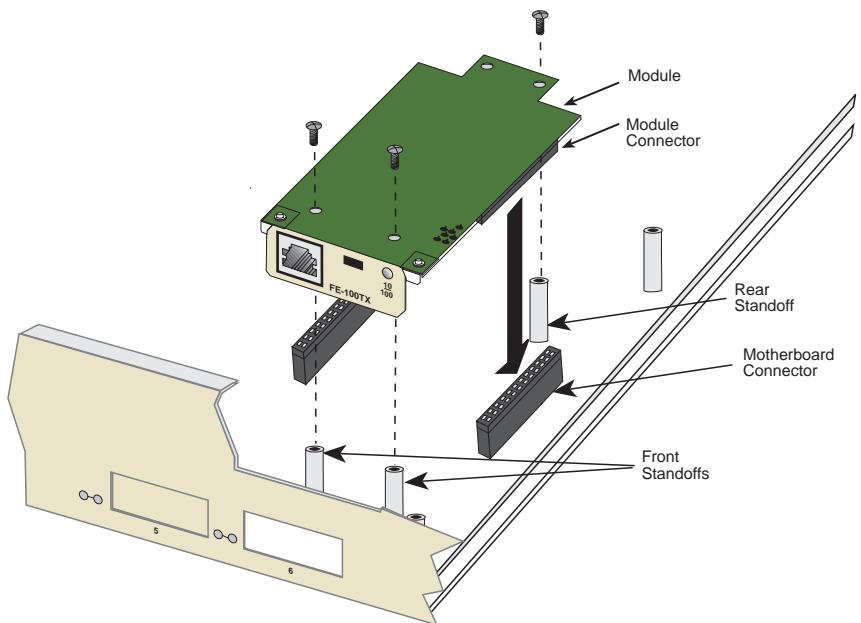

Figure C-4 Installing the Fast Ethernet Interface Module
3. See Figure C-4. Gently pull the faceplate of the host module forward to allow room for the Fast Ethernet Interface Modules to be aligned over the connector.